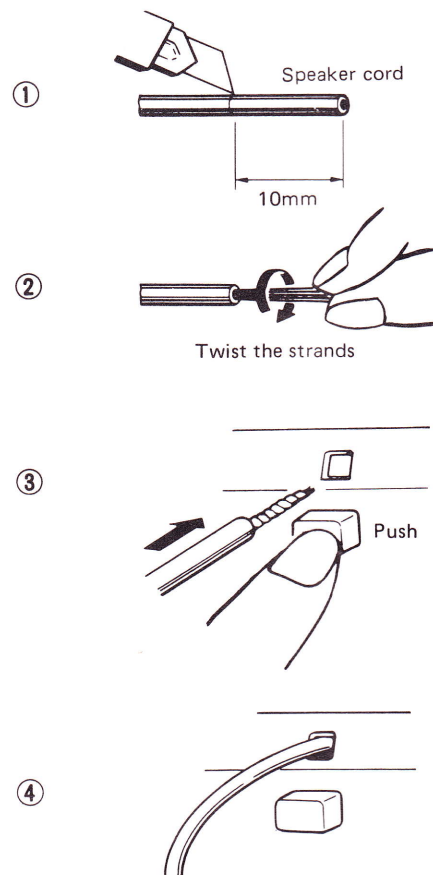

Fig. 2
Processing and connecting the speaker cords (Fig. 2)
1. Cut off the covering of the speaker cords as shown in Fig. 2-①.
3. Push the minus (black) button of the speaker terminals with your finger and insert the minus speaker lead (black) into the hole above the button. The lead is locked into position when the button is released. Check that the lead is connected firmly (Fig. 2-③).